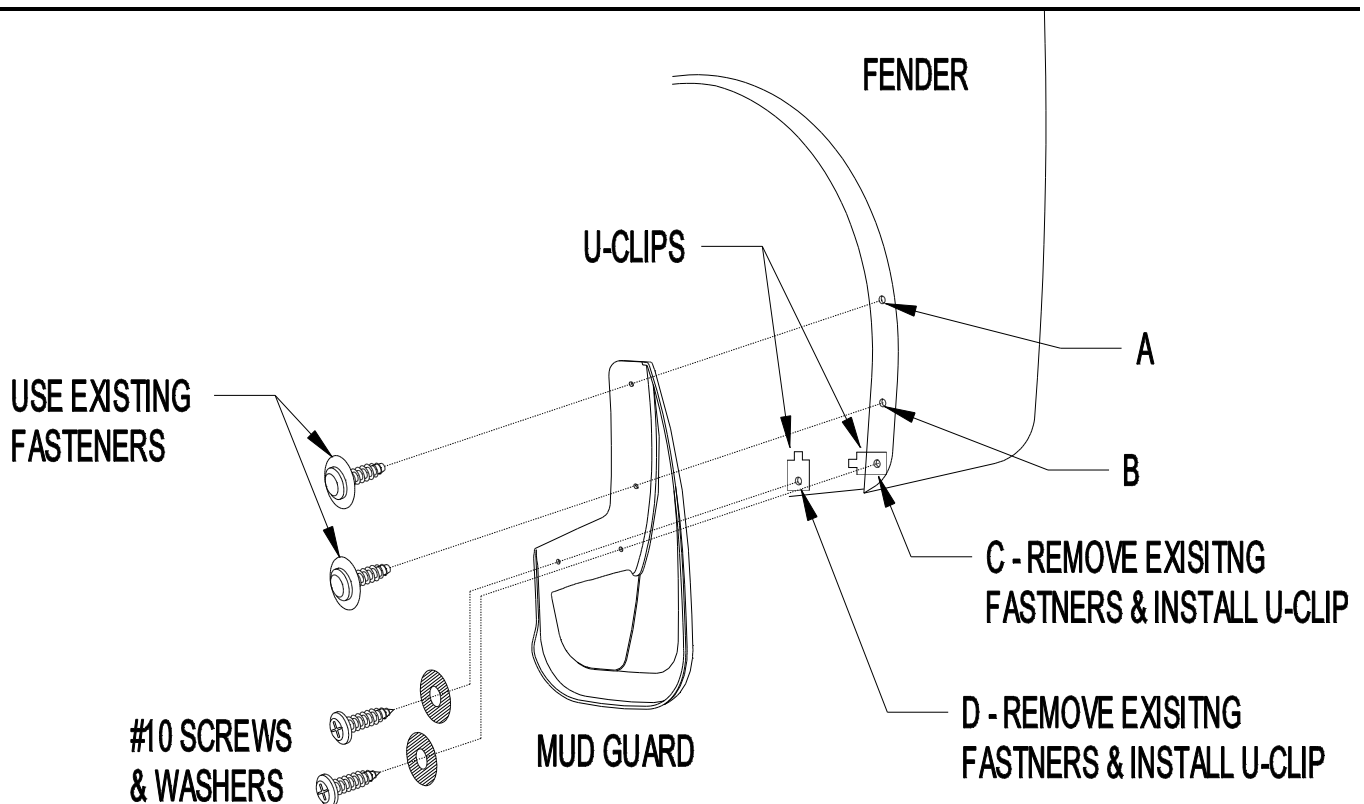

Figure 1
- #10 screw (4)
- Washers (4)
- U-clip (4)
2. Remove existing fasteners from locations A and B (Figure 1).